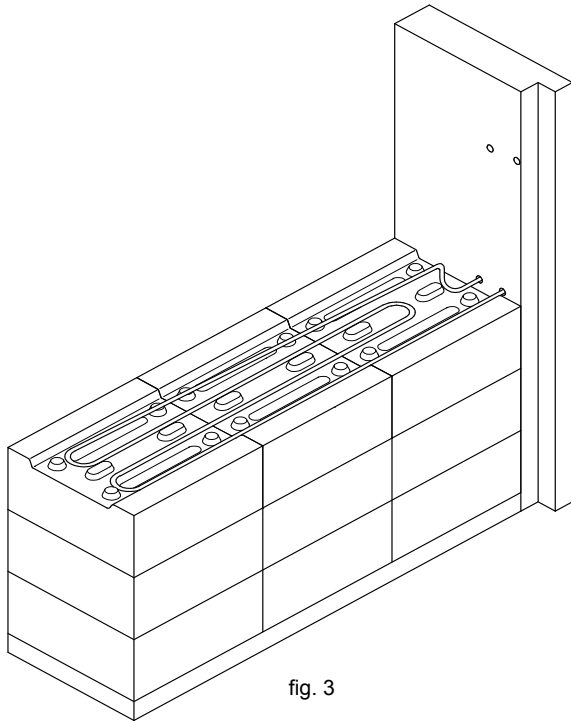

fig. 3
7.- Place a row of storage bricks carefully, with the flat side heading the bottom of the heater. Insert one of the heating elements in the holes in the right side insulation (Fig. 3).